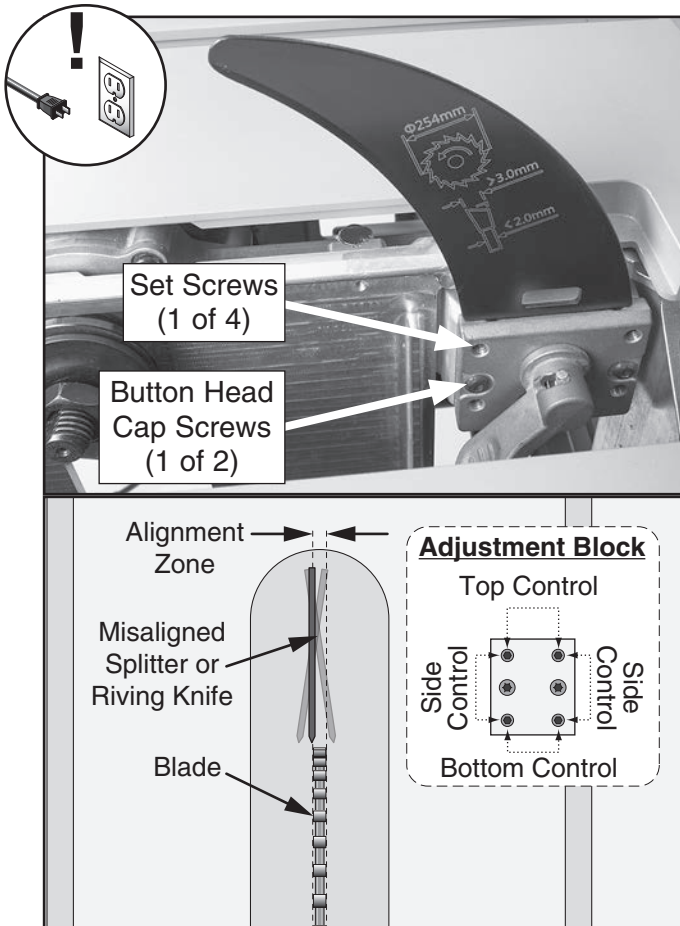

Figure 88. Set screws for adjusting spreader/riving knife position.
- Loosen (2) cap screws on mounting block, then adjust either top or bottom control set screws or side control set screws (see **Figure 88**) to move it the needed direction.
- Tighten (2) cap screws on mounting block to secure spreader/riving knife adjustment.